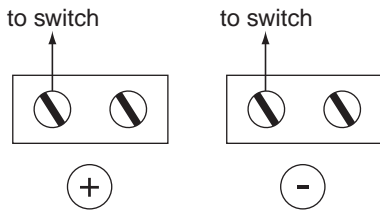

Figure 1
1. SPST reed switch: Connect wiring to red switch leads or terminals per wiring diagram. See figure 1.